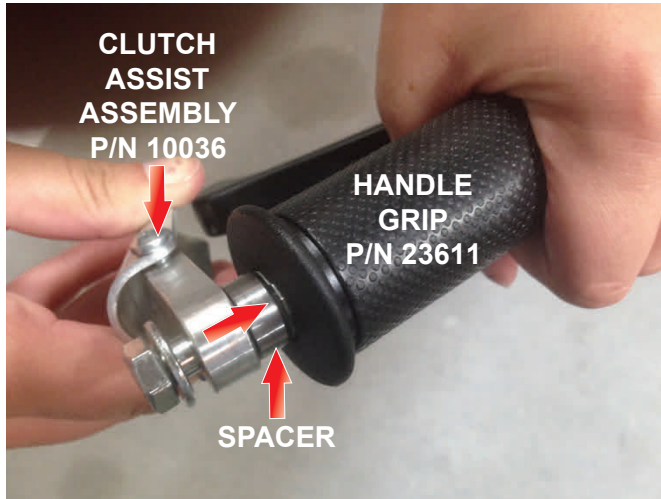

Figure 7. Clutch Assist Installation
6. Insert the clutch assist assembly (P/N 10036) into the handle grip (P/N 23611) and push it in until the spacer goes through the hole in the handle grip. See Figure 7.